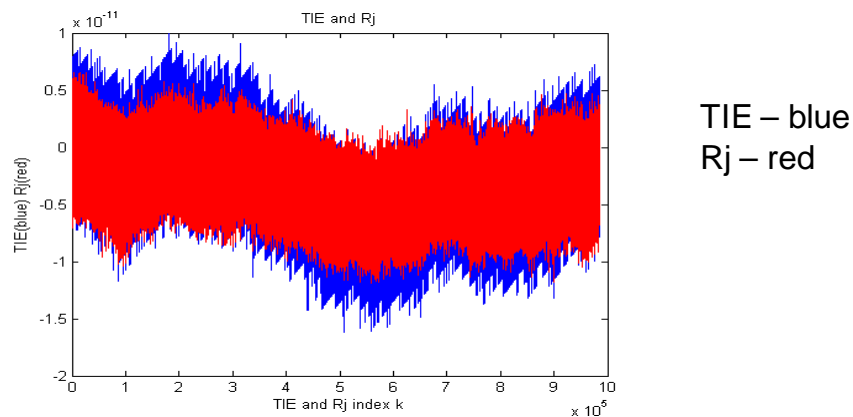

Figure 5 — Calculate Rj for each index k
- Separate TIE sequence F into DJ and RJ sequences. After separation, each point in TIE can be represented as: $F_k = DJ_k + RJ_k$, $k=0, \dots, Mjtr$, see Figure 5.
VIDCK is the magnitude of the difference between the input level in CK and the input level on CK_c. The input reference level for signals other than CK and CK_c is VREFC. VIDWCK is the magnitude of the difference between the input level in WCK and the input level on WCK_c. The input reference level for signals other than WCK and WCK_c is either VREFD, VREFD2 or the internal VREFD. The CK and CK_c input reference level (for timing referenced to CK and CK_c) is the point at which CK and CK_c cross. The WCK and WCK_c input reference level (for timing referenced to WCK and WCK_c) is the point at which WCK and WCK_c cross. [See figure 5]